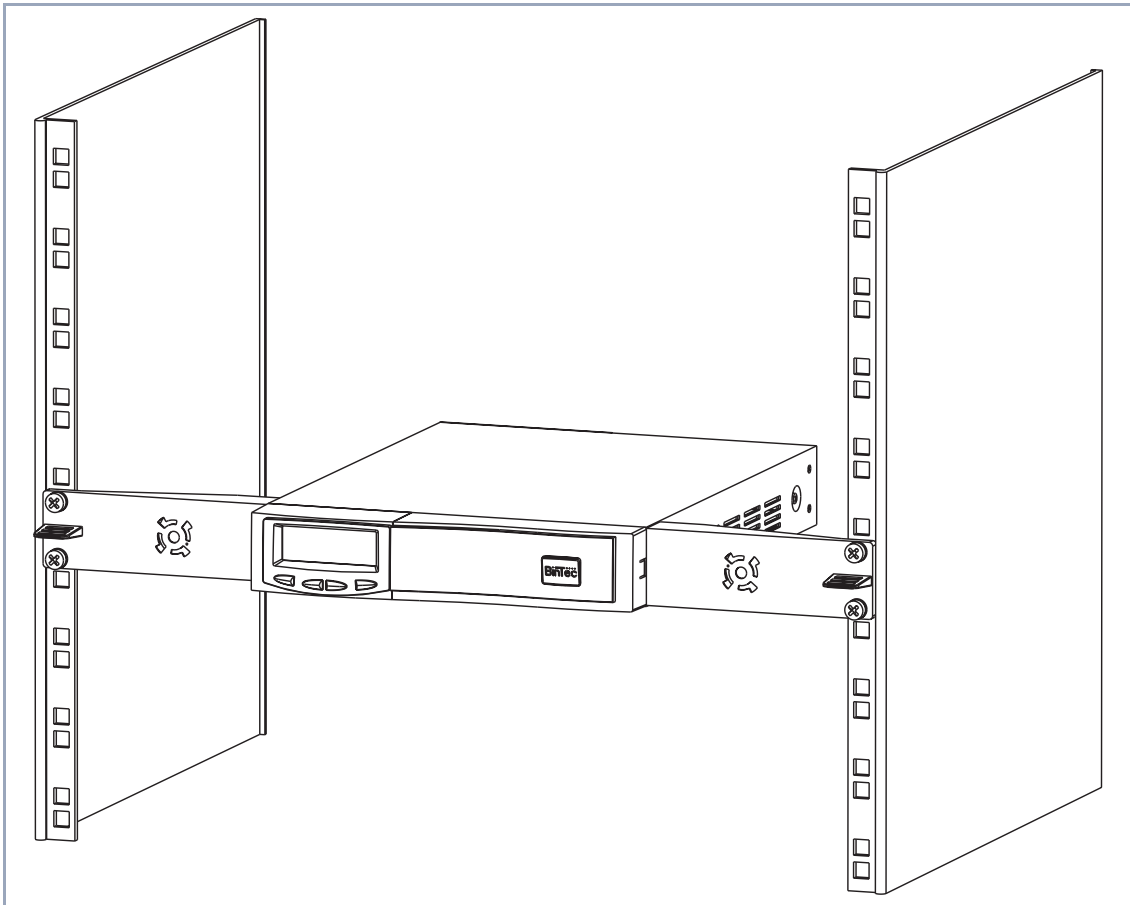

Figure 3-6: **X4000** installed in a 19-inch cabinet
- with its front panel towards the front and the connections towards the back in your 19-inch cabinet (cf. "Installation with Front Panel Towards the Front", page 41 and Figure 3-6, page 44).